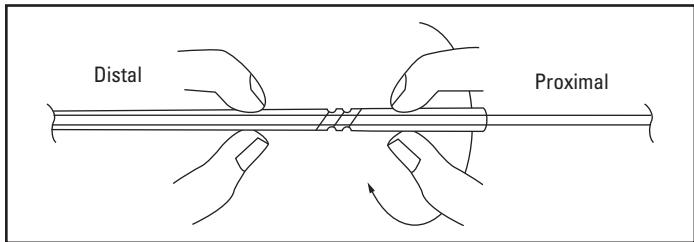

Figure 7. Lock via clockwise rotation
4. Once the IDC Coil is freed, carefully advance to within 2 mm of introducer sheath tip, then re-engage twist-lock (Figure 7).
6. Lock the IDC Coil into position by gently pinching the introducer sheath on both sides of the twist-lock mechanism and rotating the proximal side clockwise (Figure 7).